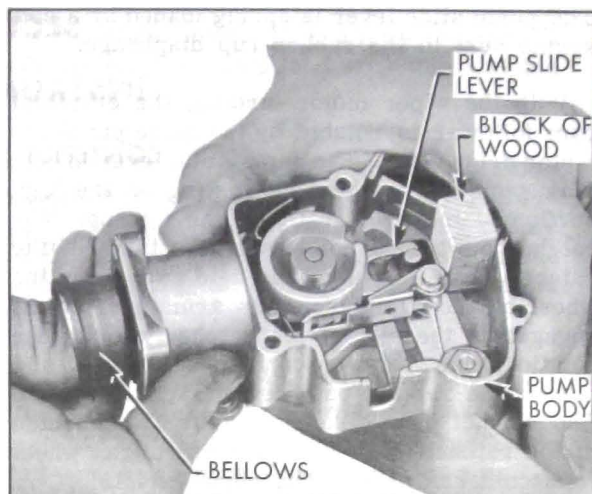

Figure 1-39—Bellows Removal
3. When plunger is all the way in on the pump stroke place a block of wood between the pump slide lever and pump body to prevent slide lever from being pushed back in next step. See Figure 1-39.